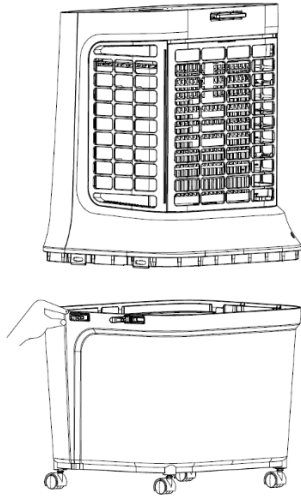
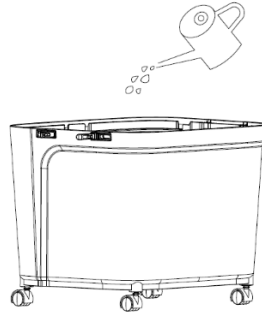

Figure 3
Figure 4
(2) Before adding water, open the 4 water tank buckles to separate the body from the water tank and slowly pour water into the water tank (Figure 3 and Figure 4): After adding water, install the body and water tank, and fix the buckle.